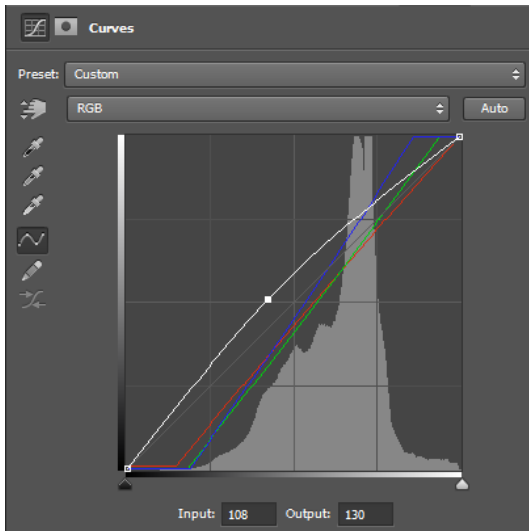

Figure 16. Luminance Adjustment Options
(5) Use the Crop tool to remove all unexposed film border or film holder areas that are visible in the document frame. This is also a good time to repair large scratches and dust spots that may influence the Histogram accuracy. Once completed, the Levels mask removal and Curves color-balance controls need to be recalibrated with the cleaned histogram in the following steps.
(6) Use the Levels adjustment layer's 'Gray Point' eyedropper to remove the orange mask as outlined in step #2. When making this adjustment the Curves Color Balance adjustment layer must be turned off using the eyeball icon.
(7) Re-enable the Curves adjustment layer using the eyeball icon and click on the 'Auto' button to reapply color-correction with the new histogram. Next sample a neutral midtone area in the image with the 'Gray Point' eyedropper on the left side of the Curves panel. You can also try 'Enhance Per Channel Contrast' in the Curves Panel 'Auto Options' and resample the neutral midtone area with the 'Gray Point' eyedropper. If the area sampled with the Levels adjustment layer Gray Point' eyedropper is now not neutral it may be helpful to recalibrate it using a different sample area. **Remember to reset the Curves adjustment layer anytime a change is made to the Levels adjustment layer by clicking on the Auto button or using the 'Auto Options' menu selection and resample your neutral midtone area with the 'Gray Point' eyedropper.**
(8) To remove any remaining colorcast in the midtone area drag the respective Red, Green, or Blue curve at its midpoints. For greater control over the edits, make small adjustments at a time. For mitigating color casts, for example, if the image has a Cyan cast increase the opposite color curve, which is Red. If the image now has a Blue or Green cast decrease the respective Curve for that color. If the shadows or highlights now have a colorcast adjust the respective Red, Green, or Blue shadow or highlight curve end points to remove it. A small adjustment in one or two channels is all that should be required to remove shadow or highlight colorcasts. If more than that is required the curve midpoints need to be readjusted.
(9) You can also use the composite RGB curve to adjust Brightness by dragging its midpoint up or down and increase Contrast using a simple two-point S curve as shown in Figures 16 and 17 below. The White and Black endpoints can also be dragged inward to increase contrast. Holding down the ALT key while moving the endpoints will display clipping in the image. Even better is to add a second Curves layer for these toning adjustments and use its composite RGB curve. That way you can reset and make changes to the Color Balance layer without disturbing your toning settings. If using Lightroom for further editing you can make these adjustment using its controls, but the results will be slightly different. You can try both methods to determine, which works best for a particular image file.